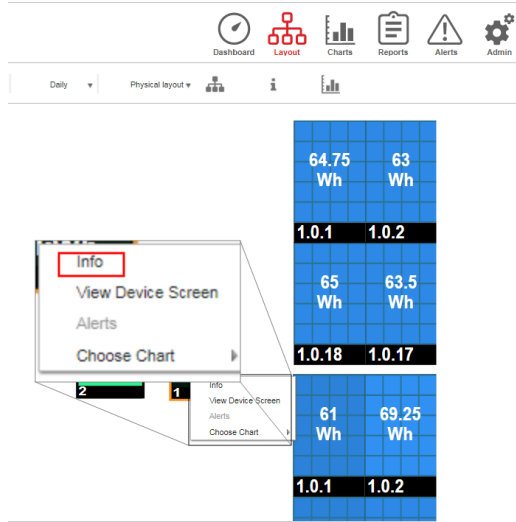

Figure 22: Inverter menu
- Right-click the inverter and select **Info** from the menu (Figure 22). The inverter details window is displayed (Figure 23).